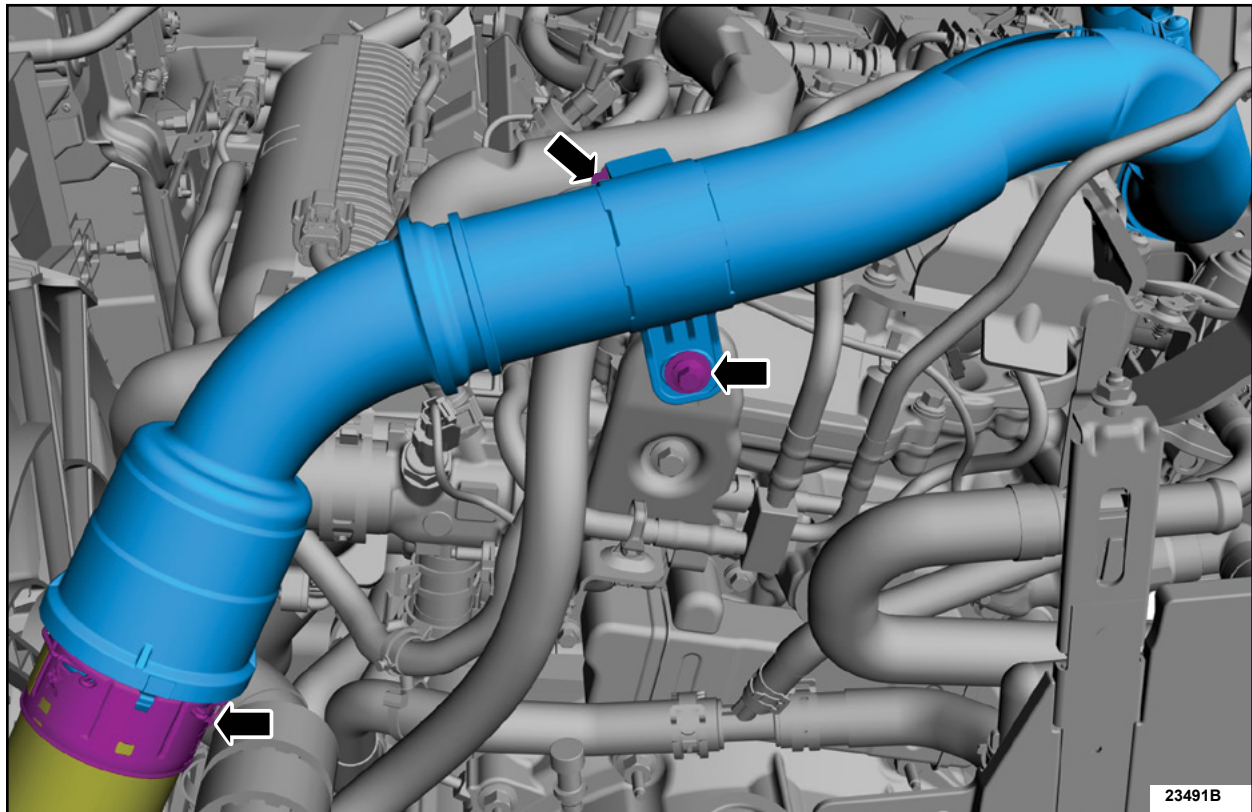

FIGURE 4
8. Remove (CAC) Intake Pipe. See Figure 4.